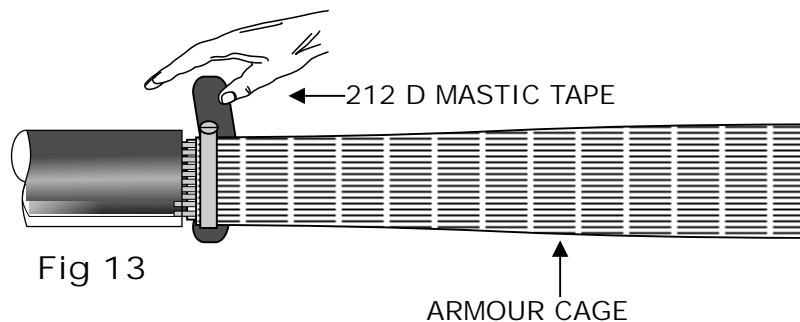

Fig 13
20. Fit the Armour Support Rings before wrapping the Heavy Duty Aluminium Cage tightly around the joint gap. Secure to both ends with the Clamps provided. Apply the remaining pieces of 212D Black Tape over the Clamps and any sharp points as shown in Fig 13.